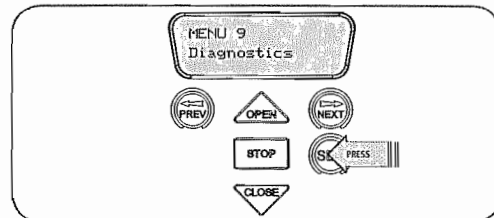

fig 52
1. Press PREV to navigate Menu 9 (Fig. 52).